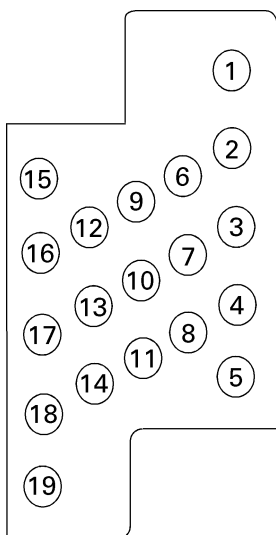

Figure 24. Pin layout of the breaker-mounted trip unit disconnect, as seen from the rear.
24. Connect the wires from the breaker-mounted trip unit disconnect [8] to the terminal board according to the chart on the terminal board mounting bracket. The pin arrangement of the trip unit disconnect plug is shown in Figure 24. The wires from the trip unit disconnect are grouped in sleeves as listed in Table 5. If zone-select interlocking is not installed on the breaker, those four wires (in two sleeves) may be cut off or tucked out of the way.